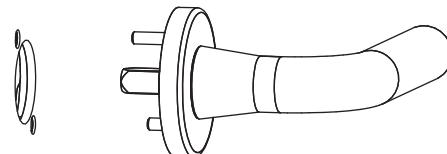

Figure 5
- Insert the uninstalled outside mortise trim and rotate to verify the top and bottom latches retract flush with the door. Do not install mortise trim at this time. (Figure 5)